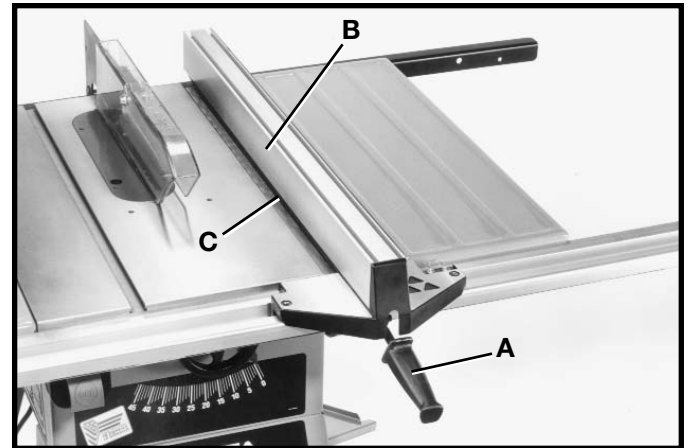
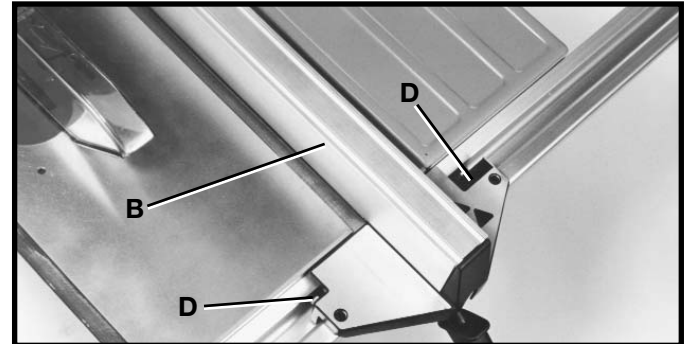

Fig. 13
Fig. 14
1. Raise lock handle (A) Fig. 13, and slide rip fence (B) against one edge of the miter gage slot (C) as shown. Clamp the fence onto the guide rail by pushing down on lock handle (A). The edge of the fence (B) Fig. 13, should line up so it is parallel with the edge of the miter gage slot. If an adjustment is necessary, tighten or loosen either of two screws (D) Fig. 14, as necessary until rip fence (B) lines up with the miter gage slot.